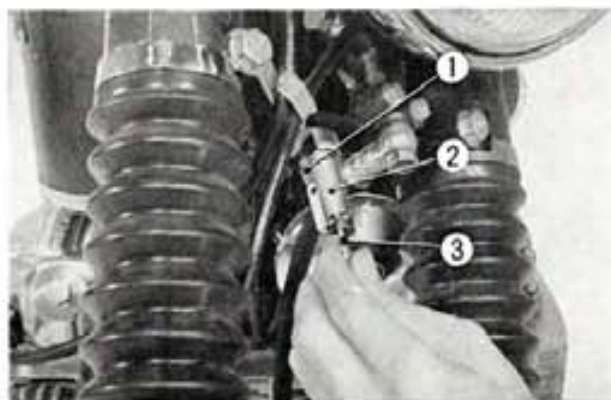

Fig. 1-4 ① Lock spring
2. Insert the key into the handle lock and turn counter clockwise approximately 60° and then the handle lock can be removed from the steering stem. (Fig. 1-4)